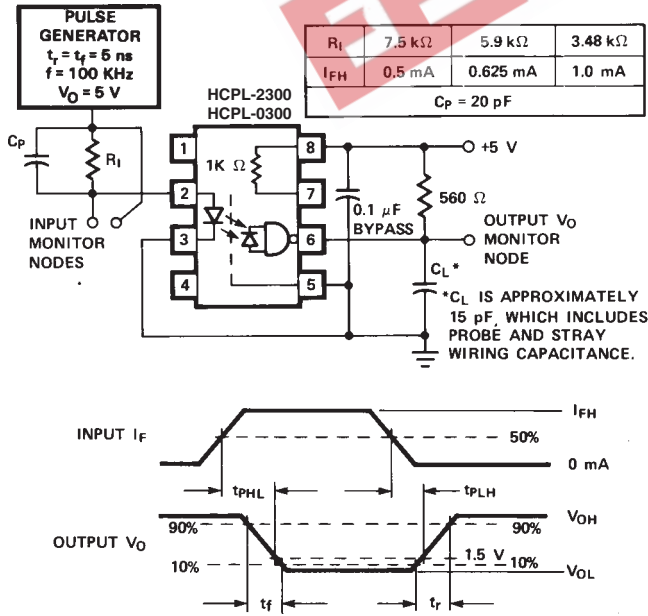

Figure 8. Test Circuit for t_{PHL}, t_{PLH}, t_r, and t_f.
- C_p is the peaking capacitance. Refer to test circuit in Figure 8.